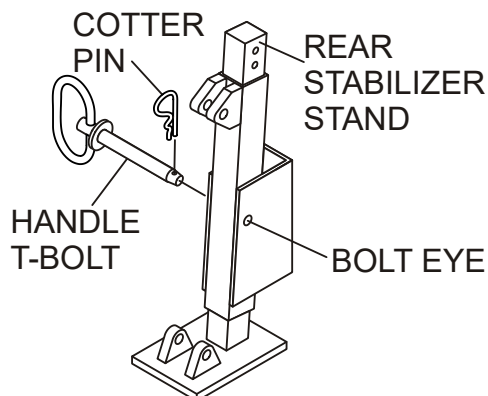

Figure 16. Rear Stabilizer Jack
2. Remove the **cotter pin** from the handle tee bolt eye, and then **pull** the handle tee to release the stabilizer jack (Figure 16).